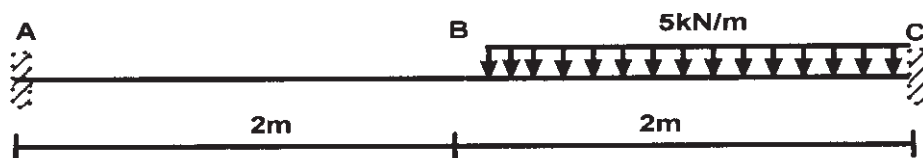

Fig. 5.a
- Q5)** a) For the fixed beam shown in Fig. 5.a, apply central difference formula dividing the beam in four equal parts and find the deflection at nodal points, and moment at fixed ends. [8]